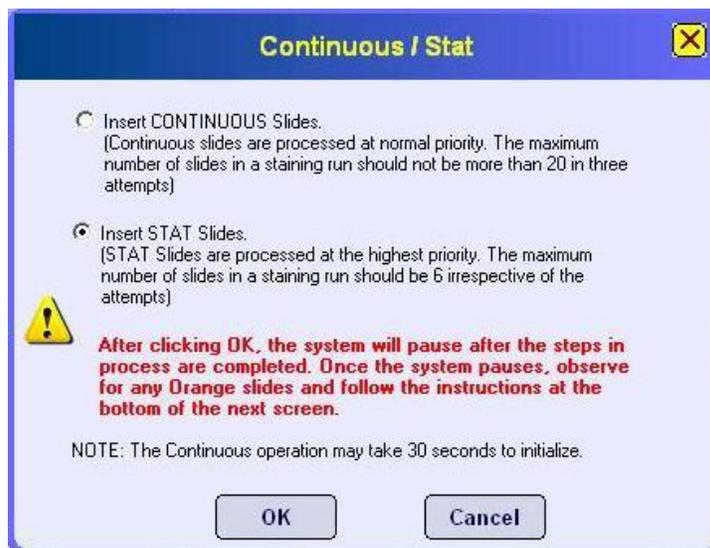

FIGURE 33: CONTINUOUS / STAT OPTION WINDOW
- xv. Select **<Start>**. The **<Reagent Map>** window will appear. The reagent Map may show that it requires extra reagents to load like Antibody, Reagents and DAB - (DAB buffer/DAB Chromogen/DAB Mixture vial Refer (Fig: 33) to be added, if the kept reagents are not sufficient to start the Continuous run.